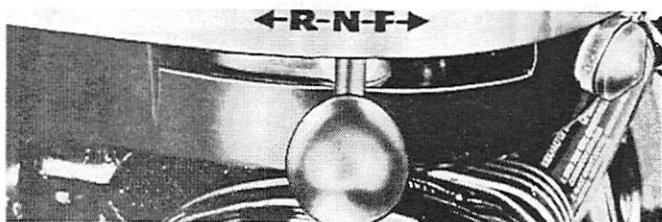

Figure 3. Decal Position
11. Move shift lever to neutral position and place decal on protector rim so that "N" is directly above lever. (Figure 3)